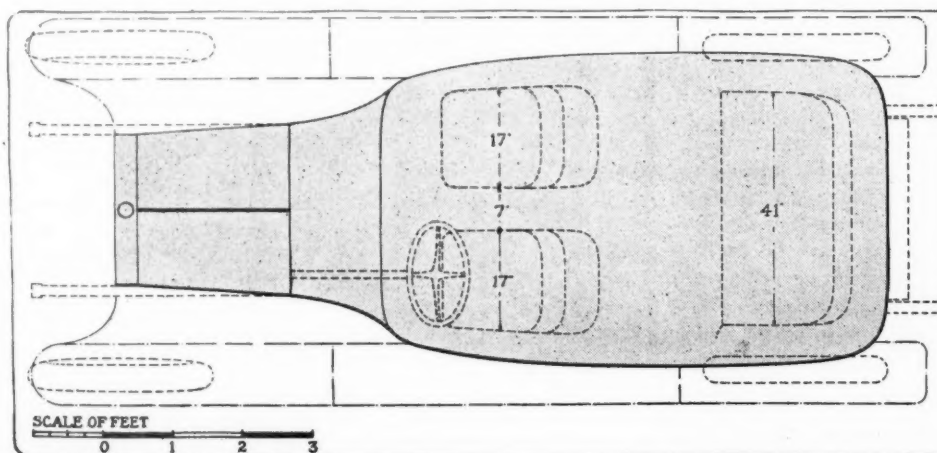
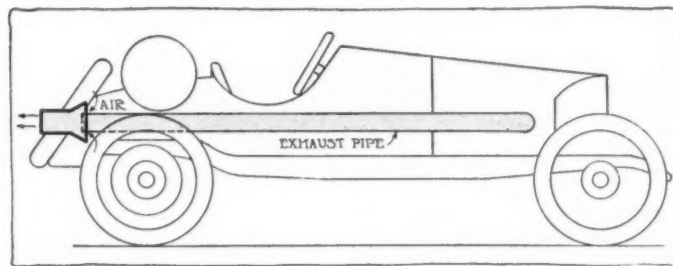

Fig. 3—Plan view of sedan, showing cowl and body lines and seating arrangement.
Fig. 1—Chevrolet racer, showing method of reducing back pressure
The sedan body having a single door in the middle on each side is well adapted for a short chassis, as the door can be wide without cutting the lower corner. As shown in Fig. 1 it is 25.5 inches and this allows all the windows on the side to be spaced equally. The door opens direct to the rear seat and the 7-inch passage between the front seats, Fig. 3, allows the two occupants to get in and out.
The steering wheel column has the runabout rake and this enables the cowl to be long and the distance from the front of the seat to the dash for leg room is also generous. In Fig. 3 the width of the front and rear seats is shown and in Fig. 1 are the height from the floor to seat and from that to under the roof. These dimensions are standard and the slope of the rear cushion of 2 inches from front to back is less than former practice. Today, however, the public is not calling for the sloping cushion. The rear cushion is 11 inches thick and the front ones are 6 inches.
The low, compact look of this body is partly due to the rounded roof and round front corners. Fig. 3 best illustrates
In Figs. 1 and 2 the round front corners are shown formed by curved glass. These corner glasses are permanent and the framing to which they are fastened on their front edge is of metal and narrow, while the front windshield is 34 inches wide. This, with the rounded corners, gives the driver a more unobstructed vision than any other style of body. In addition, the round corners and roof give the body non-wind-resisting features. The front glass is divided, the upper swinging outward to form the storm visor and the lower part swinging inward to provide ventilation. All the side glasses are made to drop and, with the exception of the one on each side at the rear of the door, drop their full length. In Fig. 4 the rear glass is shown. This is large and stationary. The rounded corners of the window openings conform in design to the rest of the body.
**EDITOR THE AUTOMOBILE:**—An interesting method, which I noticed recently, of reducing back pressure on a racing machine is that adopted by the Chevrolet company on its two racers. As shown in Fig. 1, the device consists of a straight exhaust pipe about 4 inches in diameter, at the end of which there is a large funnel-shaped piece which catches the onrushing air due to the speed of the car and forces it through the opening. This undoubtedly has a strong ejector action and sucks the exhaust out with it. Since the area of the mouth of the funnel is several times that of the exhaust pipe, the speed of the air through the funnel must be 200 or 300 miles per hour when the car is running at 60 or 80.
The density of the electrolyte is told by means of a hydrometer, which is a glass float, weighted at the bottom to hold it vertical and with a graduated scale on the upper end to indicate the gravity. The heavier the liquid, the further out from the surface it extends. Therefore the scale reading at the surface gives the specific gravity of the liquid. Evidently with this type of instrument some of the electrolyte must be removed from the cell and placed in a convenient vessel. To obviate this difficulty the hydrometer syringe shown in Fig. 3 was devised. The liquid is drawn into the syringe, in which is contained a hydrometer and in which the hydrometer is floated. It is seen that the syringe makes a more convenient containing vessel for the liquid. There is no danger of spilling the acid during the operation, and it is much quicker and simpler than the other method. Care must be taken in using the syringe not to allow the hydrometer to touch the sides of the syringe, as the friction might alter the reading. For this reason the syringe should be held vertical when it is read.